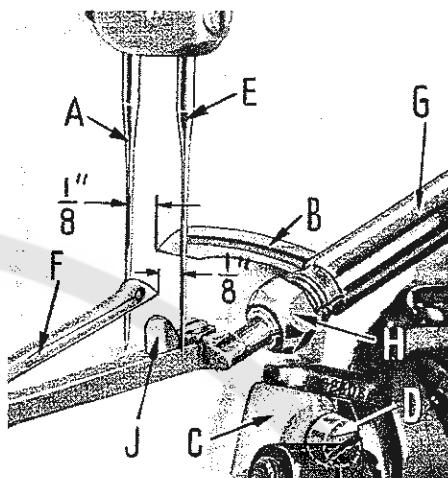
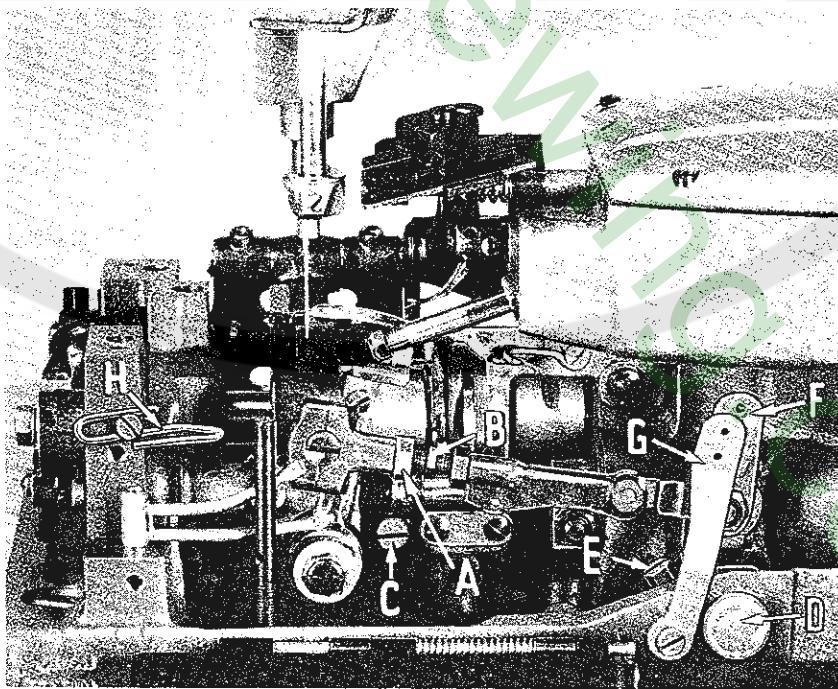

Fig. 3
Fig. 4
Insert the rear needle (A, Fig. 3), Type 108 GS, size as specified and insert the 401 stitch looper (B) in the looper rocker (C), and tighten screw (D). Rotate hand-wheel in operating direction until back looper is in the extreme right position. The looper should be set so that its point is $1/8$ inch from the center of the back needle, as in Fig. 3. Looper gauge No. 21225-1/8 can be used advantageously in making this adjustment. If adjustment is needed, loosen nut (A, Fig. 4) (it has a left hand thread) and also loosen nut on right end of connecting rod (B), turn connecting rod forward or backward to obtain $1/8$ inch, and retighten both nuts.
Insert the front needle (E, Fig. 3) and also insert the 503 stitch looper (F) in the lower looper bar (G), and tighten nut (H). Rotate handwheel in operating direction until front looper is in the extreme left position. The looper should be set so that its point is $\frac{1}{8}$ inch from the center of the front needle, as in Fig. 3.
With the back looper (B, Fig. 3) in the looper rocker (C), turn the handwheel in the operating direction until the looper moves to the left and its point is even with left side of the needle (A). Note the height of the eye of the needle with respect to the looper point, then turn the handwheel in the reverse direction until the looper point again moves to the left and is even with the left side of the needle.
If the motions are synchronized, the height of the eye of the needle with respect to the looper point will be the same. A variation of .005 inch is allowable. If the distance from the eye of the needle to the point of the looper is longest when the pulley is turned in operating direction, move the looper drive lever shaft synchronizing stud (D, Fig. 4) to the rear. Moving it in opposite direction acts the reverse.
Moving of the looper drive lever shaft synchronizing stud is accomplished as follows: Loosen clamp screw (E, Fig. 4) of looper drive lever.
The 503 looper thread take-up (F, Fig. 4) should be positioned approximately on the center line of the looper drive lever as per Fig. 4. Eyelets (G, and H, Fig. 4) are positioned correctly when the lower looper thread is taut as the spreader reaches the left end of its travel.
To control the ratio of thread pulled during the leftward movement, use the thread take-up eyelet (G, Fig. 4).
Moving this eyelet to the left causes more looper thread to be drawn on the left hand stroke of the spreader, and moving it to the right causes less looper thread to be drawn. Moving this eyelet to the right or left also affects the drawing of the looper thread at the extreme left position. To readjust for this condition, move the eyelet (H, Fig. 4) to the right to reduce the thread drawn or to the left to reduce the amount of slack. The two eyelets (F and G) are to be adjusted in conjunction with each other so that the following conditions are met: (1) $\frac{1}{3}$ of the looper thread is drawn during the left stroke of spreader, and (2) No looper thread is drawn at the extreme end of stroke.